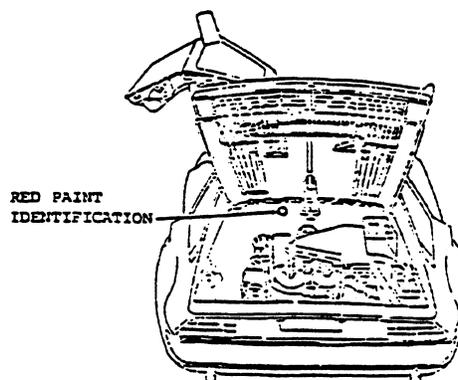

FIGURE 4
7. Lower vehicle to ground. Raise engine cover and apply a red paint dot, for identification purposes, to the engine firewall, approximately 2 inches to left of engine cover stay. (See Figure 4.)